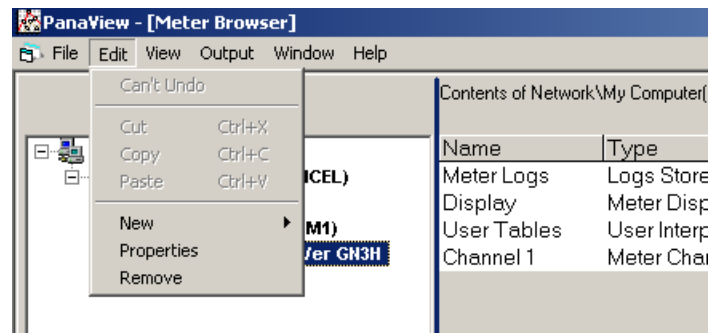

Figure 26: Properties option in the edit menu
2. Open the *edit* menu and select the *properties* option, as shown in Figure 26 below.